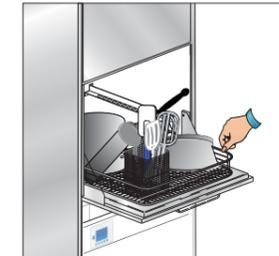

Fig.2
4. Insert the full rack of objects for washing, making sure the objects are correctly placed in the rack **Fig.2**.